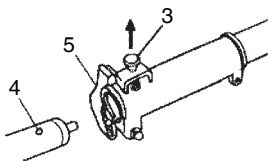

Fig. 2
2. Make sure the lock pin (3) fits in the location hole (4) of tube and that the tube will not come off. (Fig. 2)
3. Tighten the knob nut (5) securely. (Fig. 2)